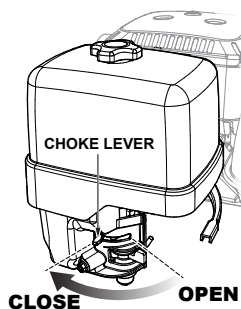

Figure 20. Choke Lever (CLOSED)
2. If starting a cold engine, place the choke lever (Figure 20) in the **CLOSED** position.